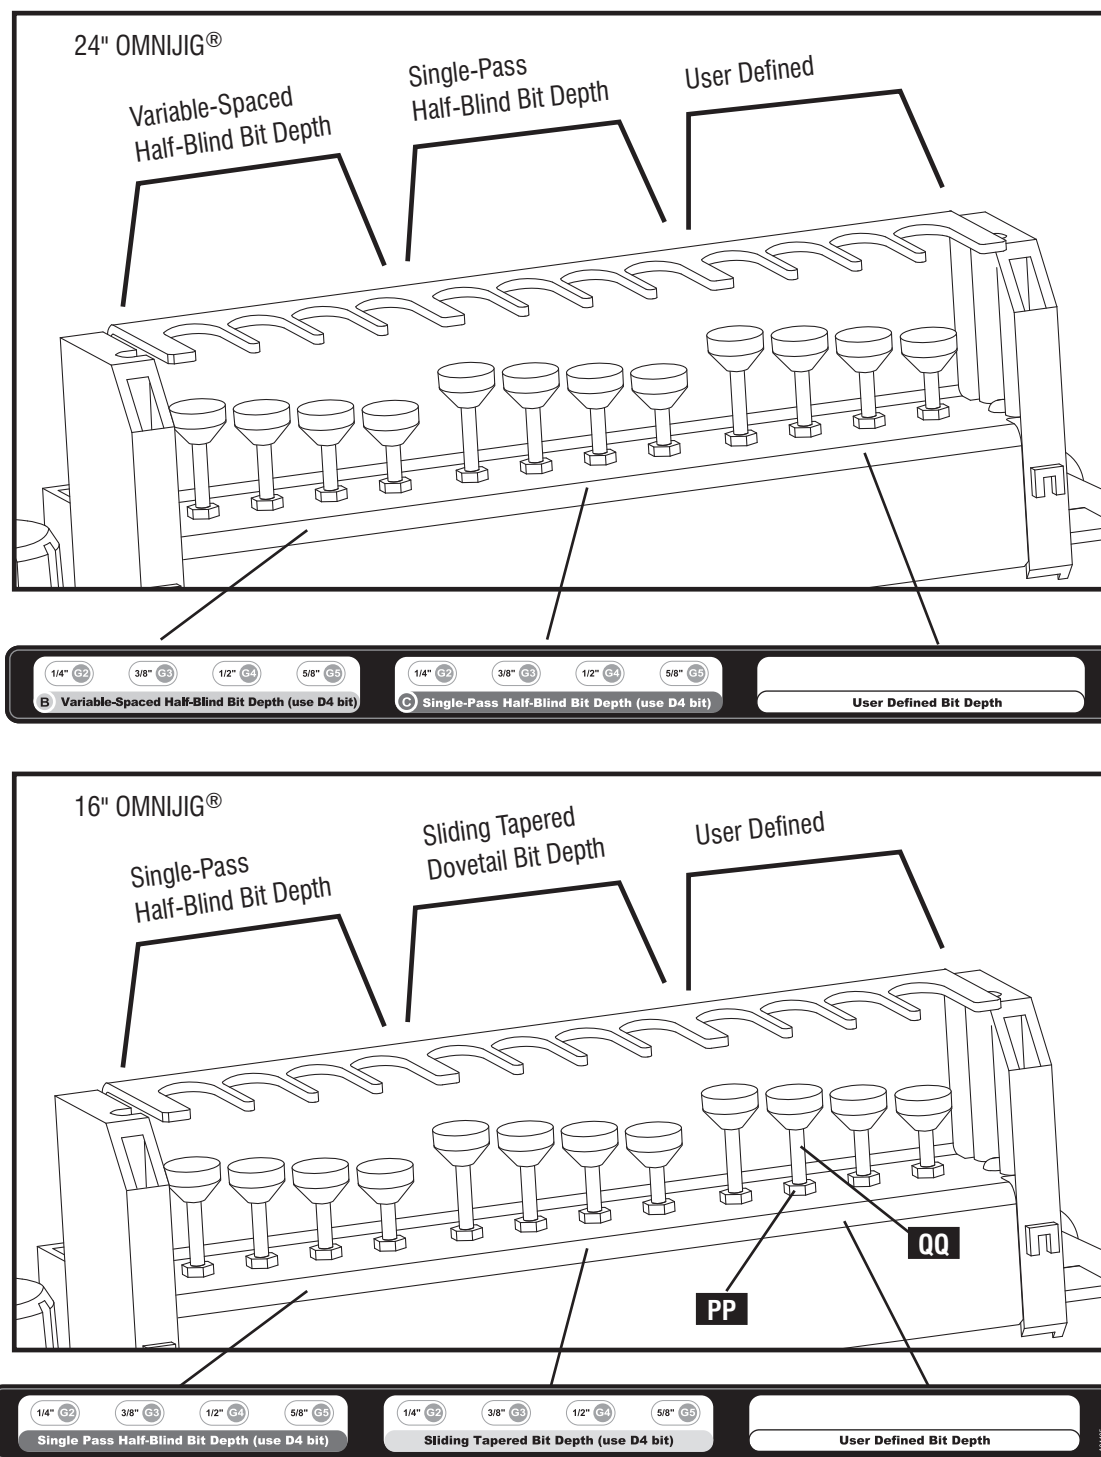

Fig. C21
The four gauges on the right side are not pre-set and can be adjusted for your specific applications. To adjust them, loosen the hex nut (PP) Fig. C21 and raise or lower the gauge screw post (QQ) as desired.